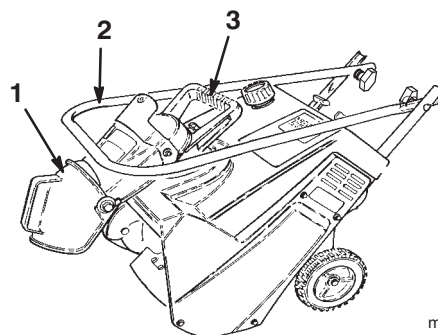

Figure 16
2. Fold the discharge chute down and install the knob tightly onto the bolt at the rear of the discharge chute handle (Fig. 16).
3. Loosen the knobs on the handle and fold the handle down over the snowthrower (Fig. 16).
4. Carry the snowthrower by its discharge chute handle (Fig. 16).